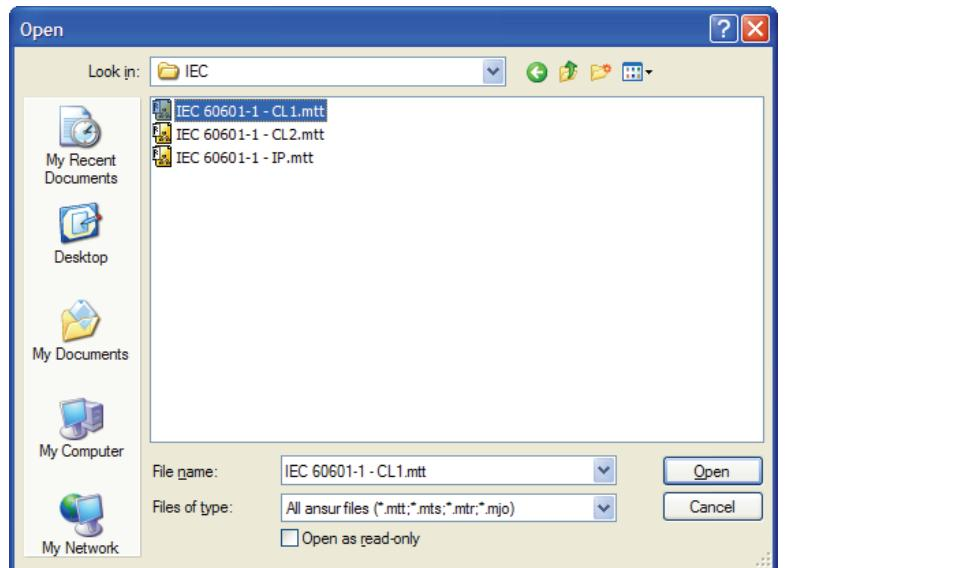

Figure 3-3. Selecting a Ready-Made Test Template
3. Double-click the ESA612 folder to open a dialog box that lists the folder names of the most common medical standards and regulator boards as shown in Figure 3-3.